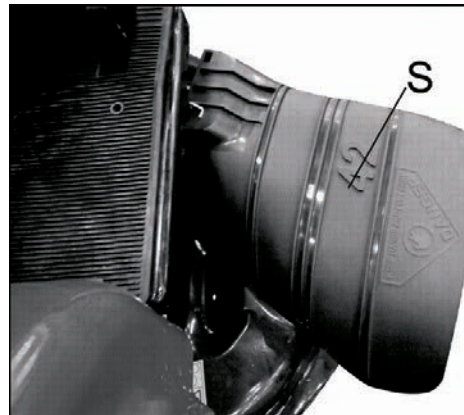

FIG.15
CAUTION: Do not operate the mover without the deflector shield (S) in place or mulch plate (See Fig. 15).